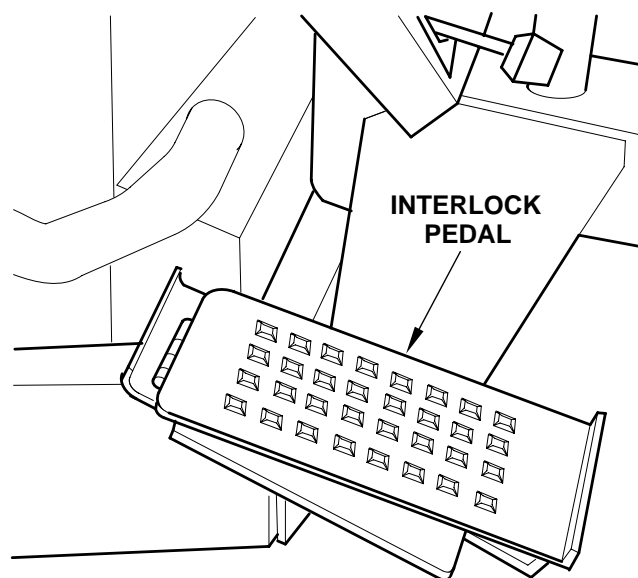

Figure 4-3 Interlock Pedal
2. **Interlock Switch Pedal (Figure 4-3):** Stops the mower when operator's left foot is raised off the pedal.